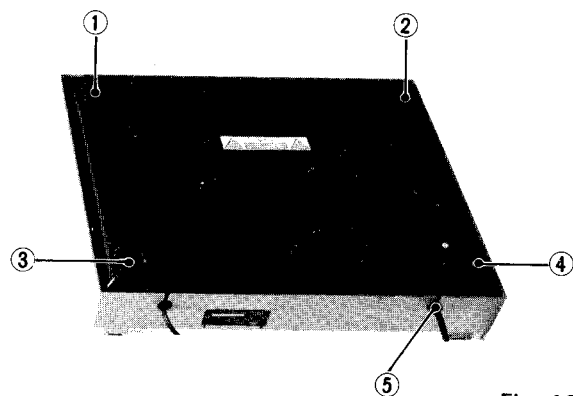

Fig. 12
1. Remove feet ① ~ ④ shown in Fig. 12.
2. Remove the cord stopper ⑤ of the signal cord as shown in Fig.12.